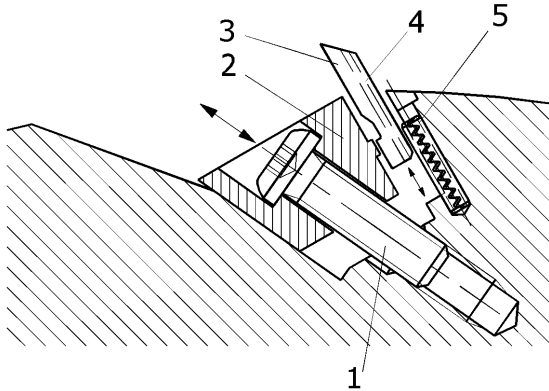

Fig.6
(see Fig. 6)
1. Screw-in the set screw (1) together with the wedge gib (2) so far (approx. 3 turns) until the position as shown in Fig. 6 is reached.